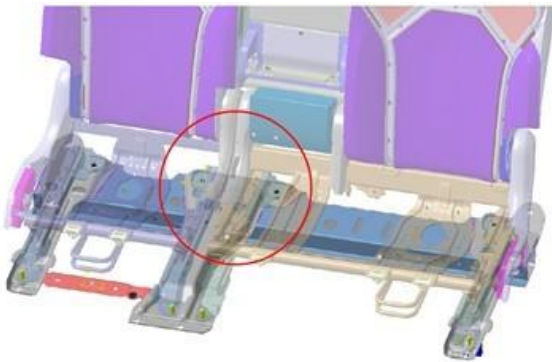

Figure 1
1) Refer to Figure 1 - The area shown should be considered after removing the applicable trim from the seat frame as per applicable Repair manual-Rep.Gr